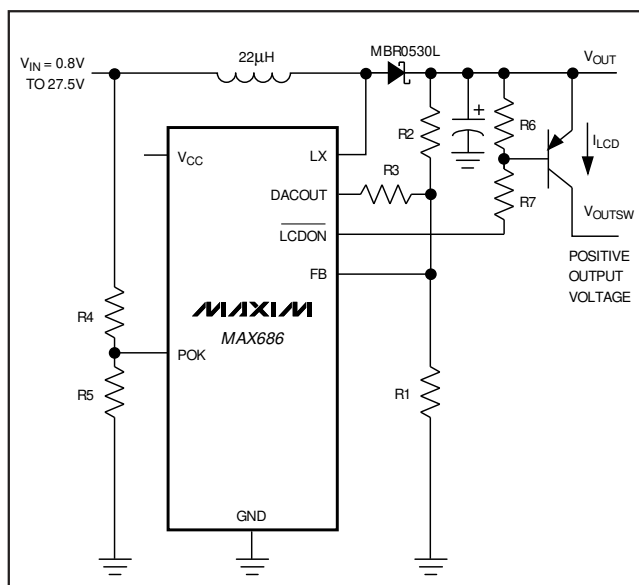

Figure 6. Using the POK for Input Voltage Monitoring
POK is the input to the power-OK comparator. The comparator drives an internal N-channel MOSFET. The MOSFET's open-drain output, $\overline{\text{LCDON}}$, can drive an external PNP transistor or P-channel MOSFET, switching a positive V_{OUT} to the LCD (Figures 6 and 7). When the voltage at POK exceeds 1.125V (power OK), $\overline{\text{LCDON}}$ goes low, turning on the external PNP transistor. When the voltage at POK drops below 1.125V (power not OK), the external PNP transistor turns off, cutting off power to the LCD display. This feature ensures that the LCD display is not damaged due to improper voltage levels. During shutdown or undervoltage lockout, $\overline{\text{LCDON}}$ is high impedance.
When the voltage at POK is greater than 1.125V (typical), the open-drain \overline{LCDON} output pulls low. \overline{LCDON} can withstand up to 27.5V to control an external PNP transistor to switch on the MAX686's positive output (Figures 6 and 7). A PFET can also be used, but a resistor-divider must be used in conjunction with it, so that the PFET does not exceed its V_{GS} rating. Three useful applications of this feature are as follows:
- An input-sensing cutoff for positive outputs. Connect POK to a voltage divider to sense the input voltage. The output switches on only when the input reaches the set level (Figure 6).
For input voltage sensing, a resistor-divider (R_4 - R_5 , Figure 6) from V_{IN} to POK controls the open-drain output \overline{LCDON} , which pulls low when $V_{POK} > 1.125V$. Choose $R_5 = 100k\Omega$. For example, if the minimum battery voltage is 5.3V, then determine R_4 as follows: